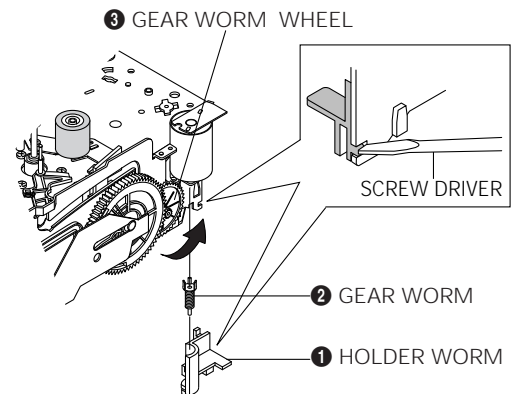

Fig. 1-32
- 4) Rotate Gear Worm Wheel ❸ counterclockwise using screw driver again up to the state of eject mode and then pick out the tape. (Refer to Fig. 1-32)